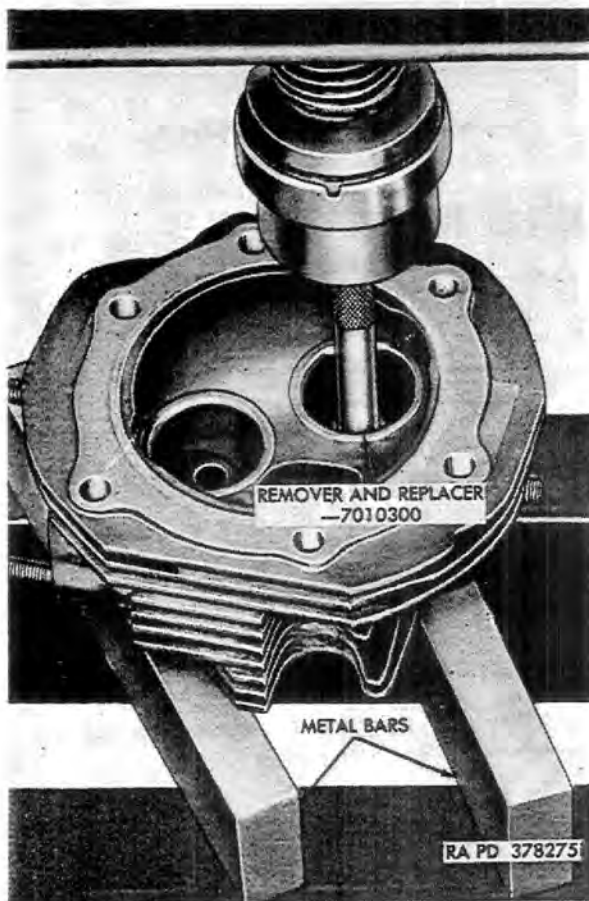

Figure 48. Removing valve guide, using remover and replacer 7010300.
e. Valve Guides. Inspect valve guides (D, fig. 46) for looseness, cracks, galling, erosion, or scuffing. Remove any carbon deposits in the valve guide bores with crocus cloth and dry-cleaning solvent or mineral spirits paint thinner. Check bores to limits specified in repair and rebuild standards (par. 134). If guide is below standards, remove with remover and replacer 7010300 (fig. 48). Check bore in cyl-